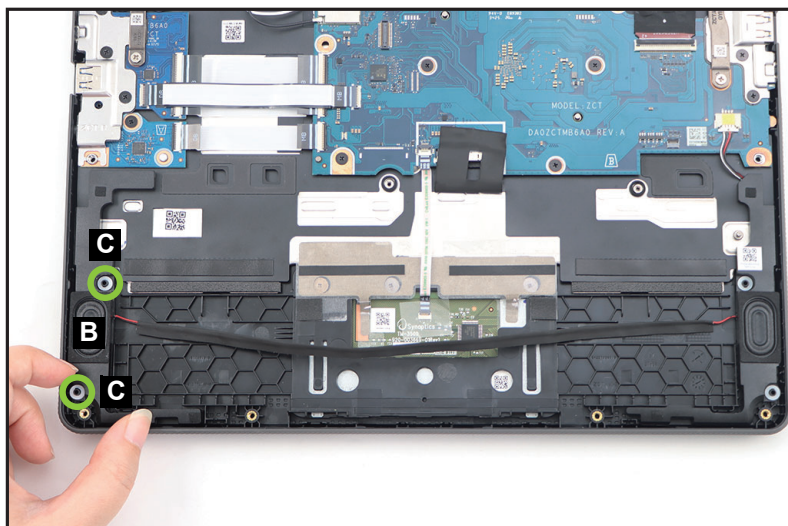

Figure 1-12. Touchpad Module Removal
2. Lift the right speaker (B) to release it from the guide pins (C) (Figure 1-12). Then place the speaker aside.